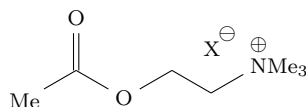

Figure 3.4: Quaternary ammonium salt example.
- Example: Acetylcholine, an important neurotransmitter (Figure 3.4).